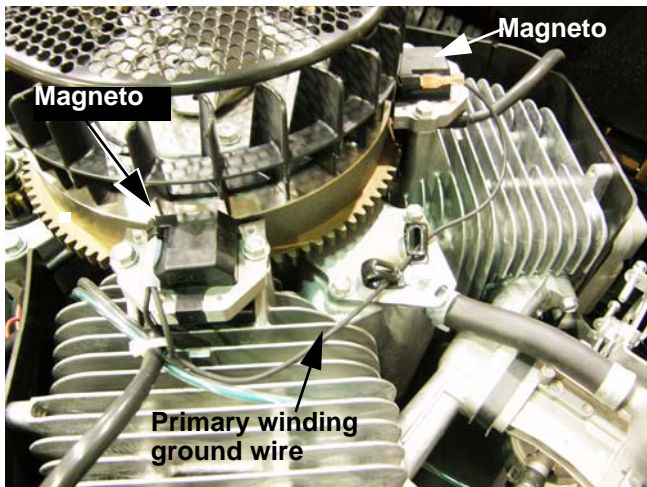

Figure 7.19
1. The ignition sparks are generated by a magneto. The magneto will work as long as the primary windings are not grounded. With the key switch in any position other than off, there is no connection between the M (Magneto) terminal and the G (Ground) terminal. See Figure 7.19.